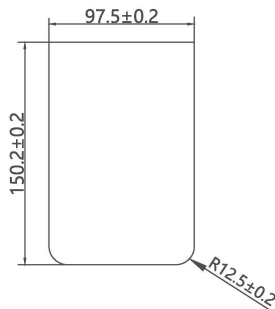

Figure 6.2b) Figure of supporting board installation (cabinet door cut-out)
6.4.4 Figure 6.2b): Dimension drawing of supporting board.(cabinet door cut-out). The supporting board (including operation panel) can be installed on the cabinet door.